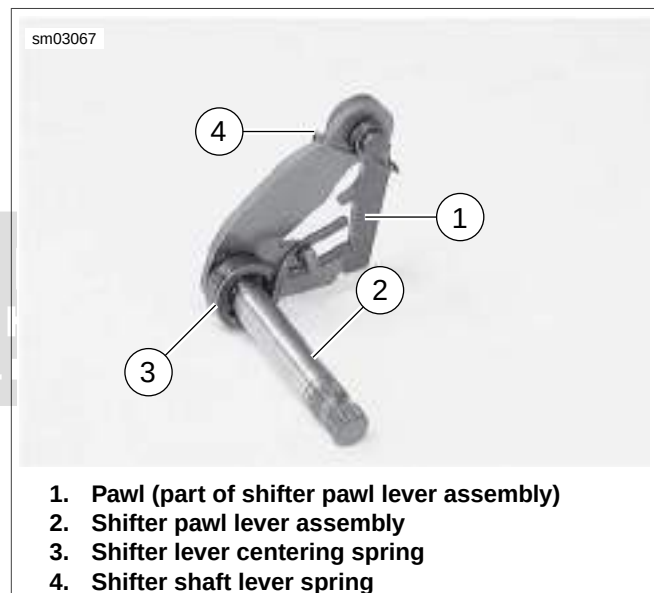

Figure 6-53. Shifter Pawl Lever Assembly
2. See Figure 6-53. Slide shifter lever centering spring (3) over shaft of shifter pawl lever assembly (2). Align opening on spring with tab on lever.
3. Place shifter shaft lever spring (4) on shifter pawl lever assembly.